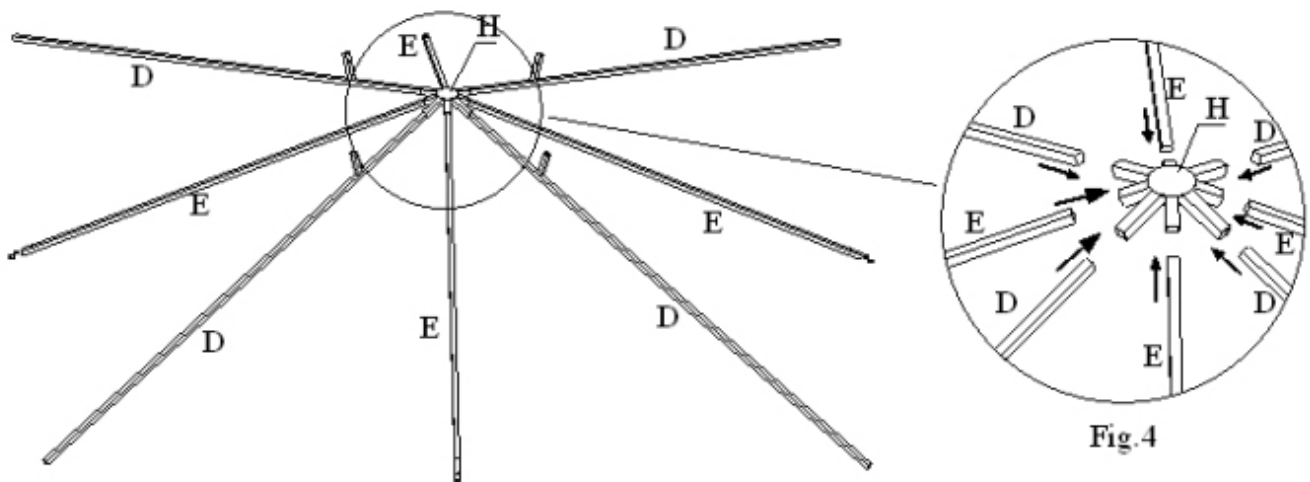

Fig.4
Step 4: Insert the 4 Canopy Spokes (D) into the 4 long tubes of the Lower Canopy Hub (H). Insert the 4 Canopy Frames (E) into the 4 short tubes of the Lower Canopy Hub (H). Make sure all snap buttons are in place. See the Figure 4.